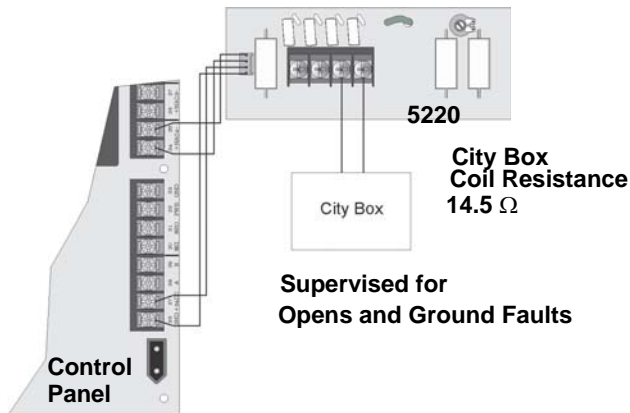

Figure 3-26 City Box Connection
2. Wire the 5220 to the SK-5208 as shown in Figure 3-26. This drawing also shows how to connect the city box coil to terminals 3 and 4 on the 5220.